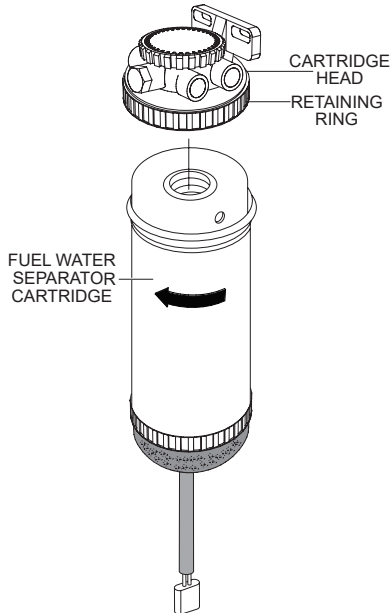

**Figure 71. Fuel Water Separator Sediment Bowl**
1. Remove the **sediment bowl** (Figure 71) from the **fuel water separator cartridge**.